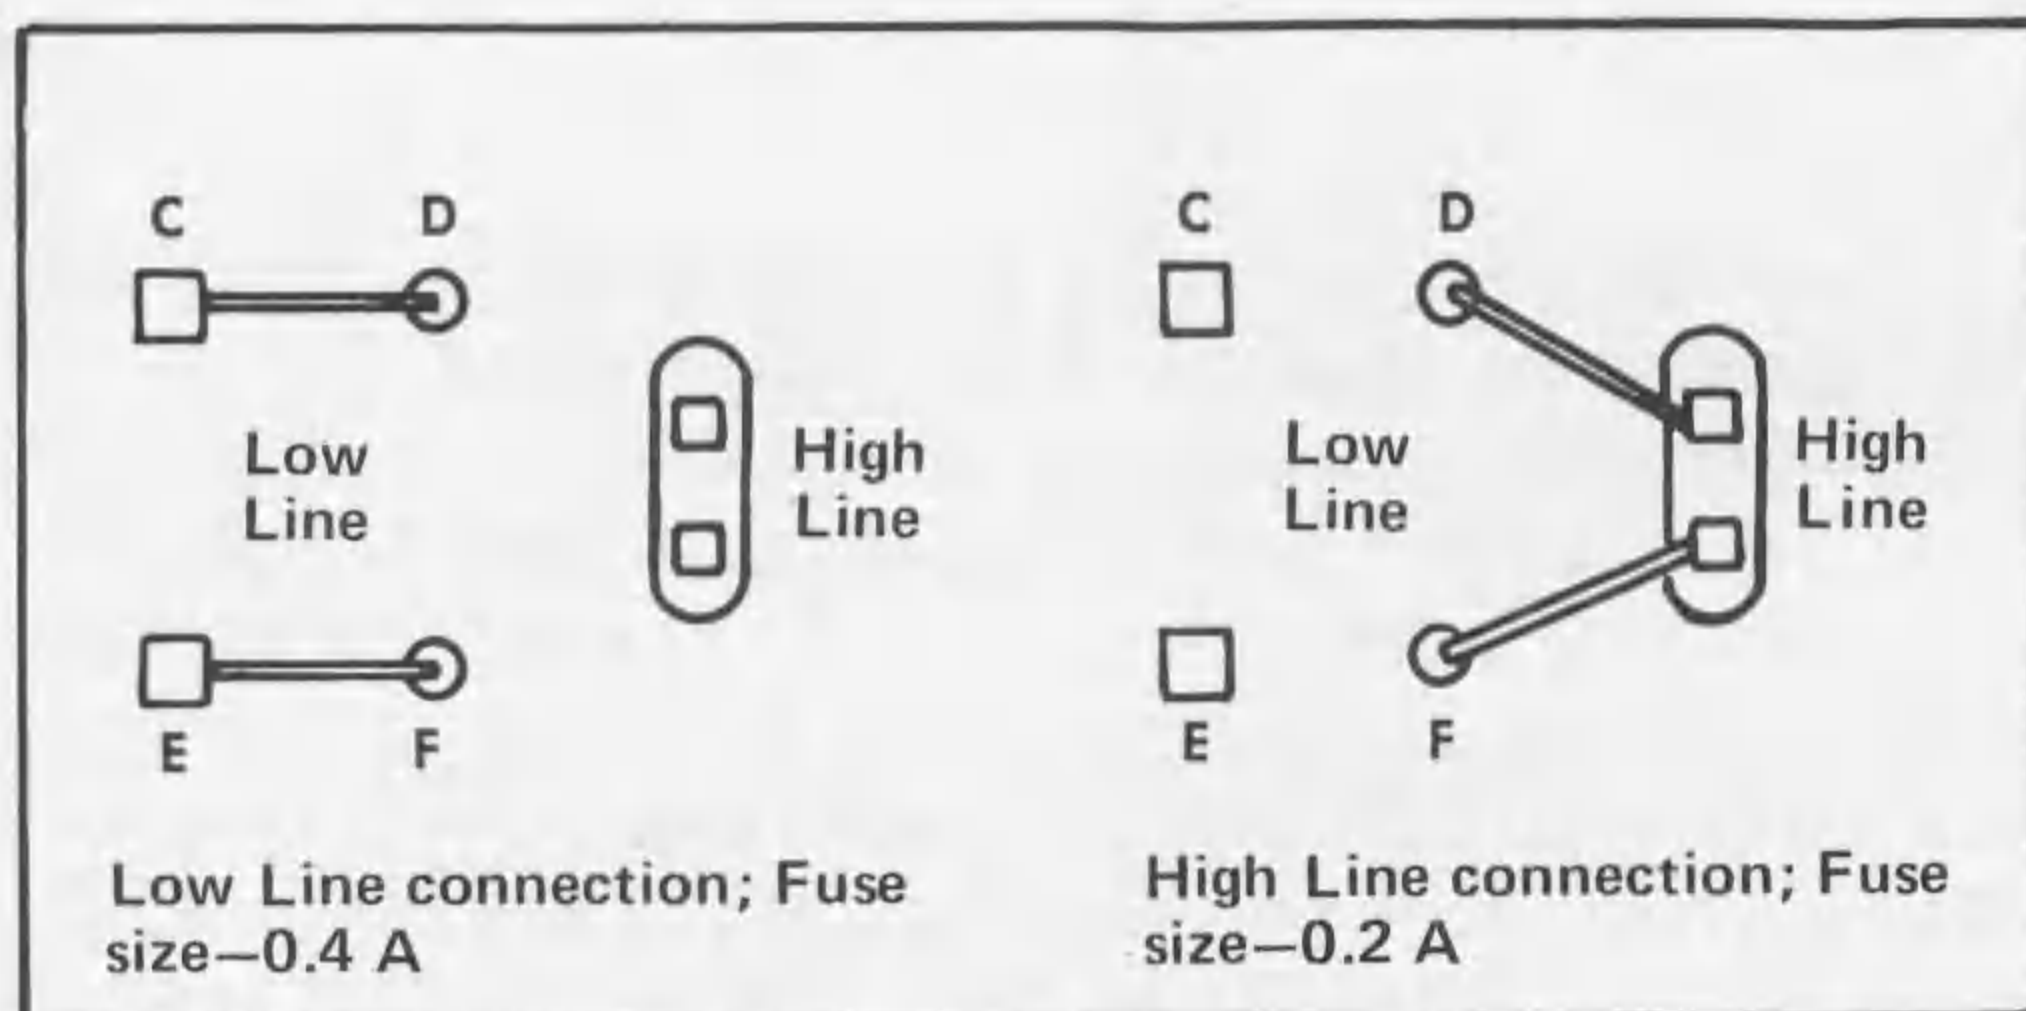

Fig. 4-10. Connections for 100 V and 200 V AC operation. Place insulated sleeves on unused square pins after changing the connections.
**Transformers.** To remove the transformer, unsolder its eight leads from the circuit board. Remove the Power Pack cover plate from the opposite side by removing the six screws from it. Then remove the two transformer mounting bolts; the transformer can then be lifted out through the hole in the side plate. See Fig. 4-10 for low line—high line wiring information.
**Fuses.** Access to the fuse can be obtained by pulling the plastic cap off toward the bottom. When replacing it, be sure that the grooves in the cap align with the fuse mounting board. See Fig. 4-10 for low line—high line fusing information.